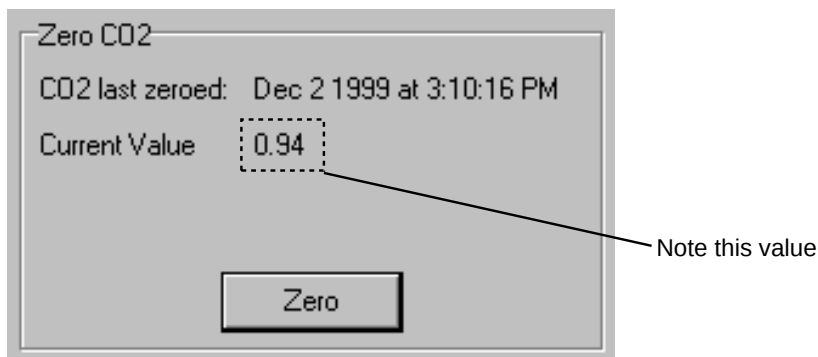

Figure 4-5. Note value of Z_{CO}, shown as Current Value.
5. Observe the CO₂ concentration and wait for it to stabilize (typically 1 minute). Also, note the present value of Z_{CO} (Figure 4-5).
6. When the reading has stabilized, click **Zero** to set the CO₂ zero. After a brief delay, the displayed CO₂ value should be fluctuating around zero. Check the resultant value of Z_{CO} shown on the *Zero CO₂* page (Figure 4-5). It should be near 1 (typically between 0.85 and 1.1). This value will steadily increase as the internal chemicals lose effectiveness.